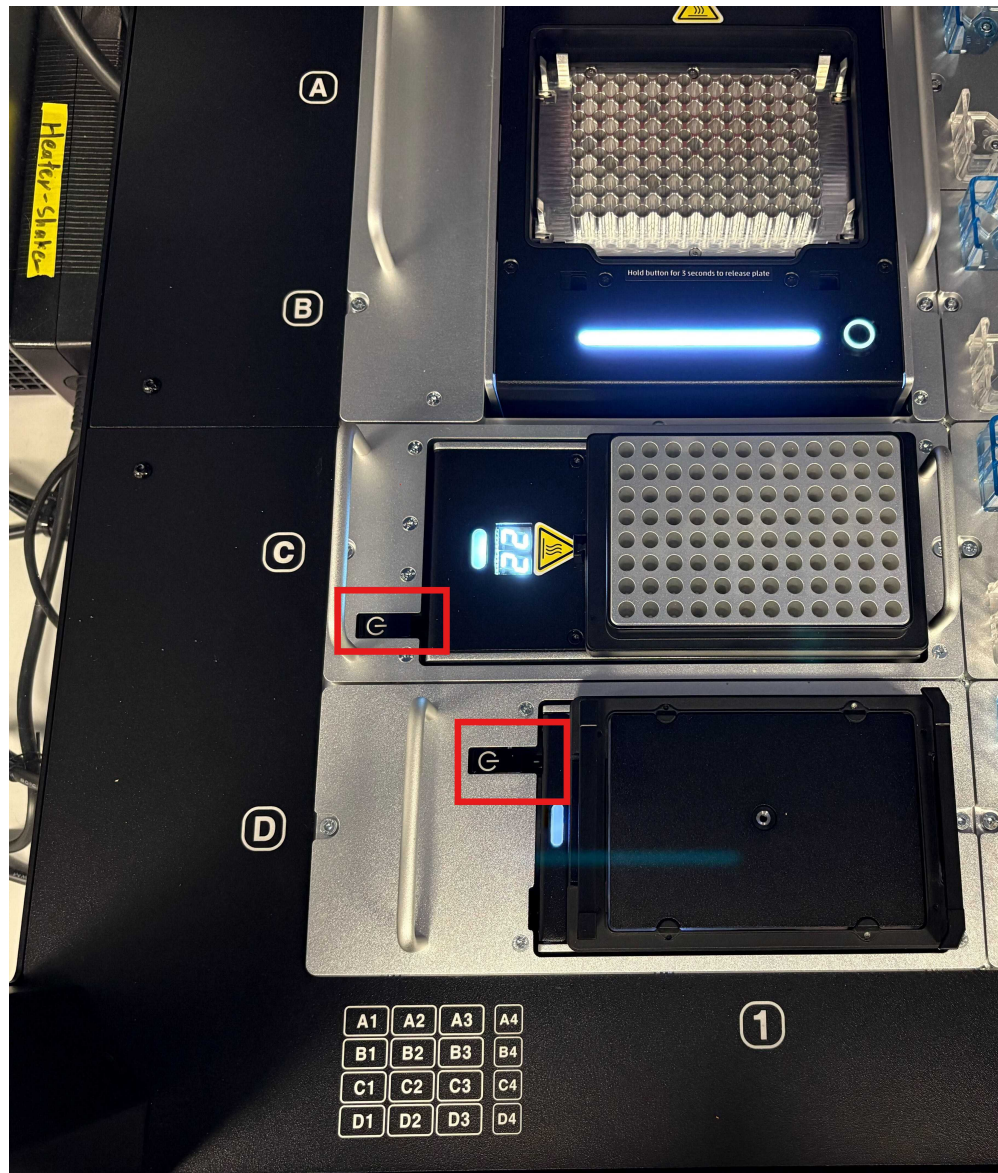

Figure 5. Opentrons Flex modules: temperature block module in deck slot C1 and heater-shaker in deck slot D1 with power buttons outlined in red.
- Using the switch on the deck inside the Opentrons Flex, power on the temperature block and heater-shaker modules with the power switches as seen in Figure 5.